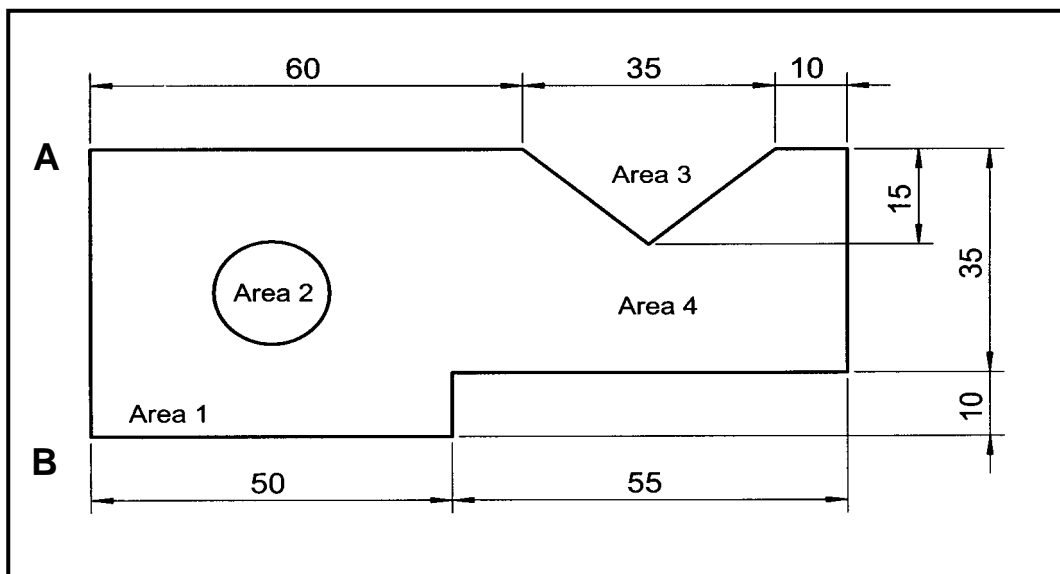

FIGURE 5.6
5.6 FIGURE 5.6 shows a lamina of even thickness.